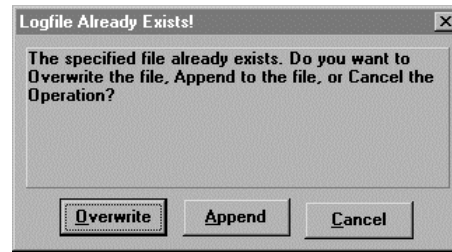

Figure 6-12. The *Logfile Already Exists* Message
- If you choose a logfile that already exists, the *Logfile Already Exists* message (Figure 6-12) appears, asking if you wish to overwrite the existing file or append the status messages to the end of the existing file. Choose *Overwrite* or *Append* to begin logging in the file or press *Cancel* to close the dialog without opening the logfile.